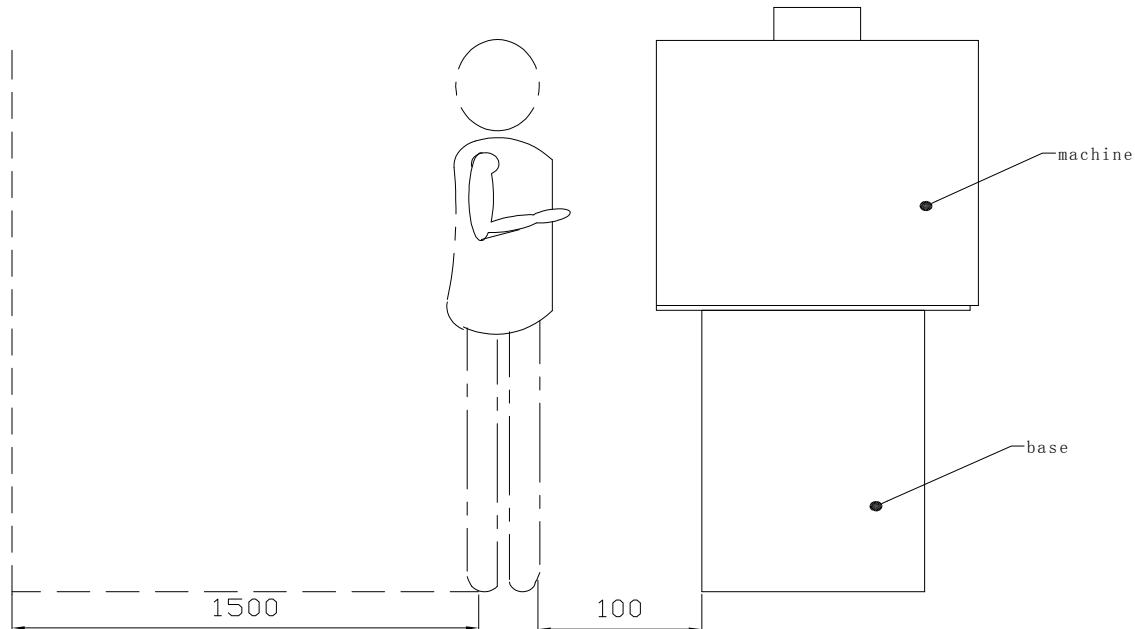

Figure 1-6
1.5.1 Operators position: it's shown in Figure 1-6.